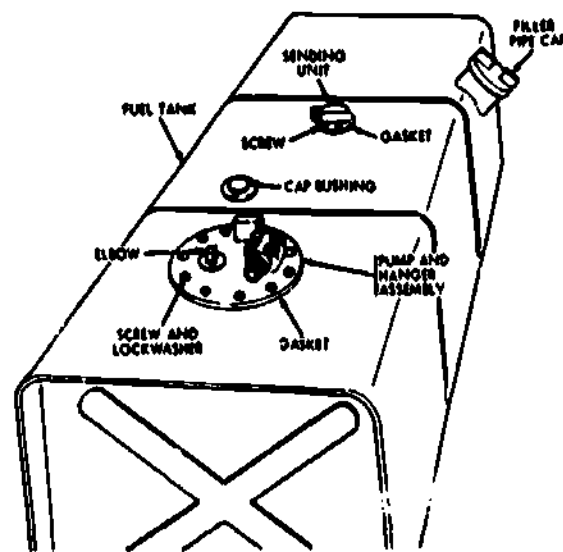

Fig 4-1. Fuel tank.
a. Fuel tank (fig 4-1). Start by inspecting the fuel tank for holes, rusty spots, and proper mounting. If the tank has a rusty spot or if some other part is rubbing against it, a leak will soon develop. The common causes of leaks in the fuel tank are holes and rusty spots. Inspect the filler cap to make sure it seals the filler neck and that it is still secured by its retaining chain. Check the condition of the filler neck and the fuel strainer. Make a visual check of the fuel gage sending unit and fuel pump electrical connections. Check for any damaged or leaking fittings and connections.